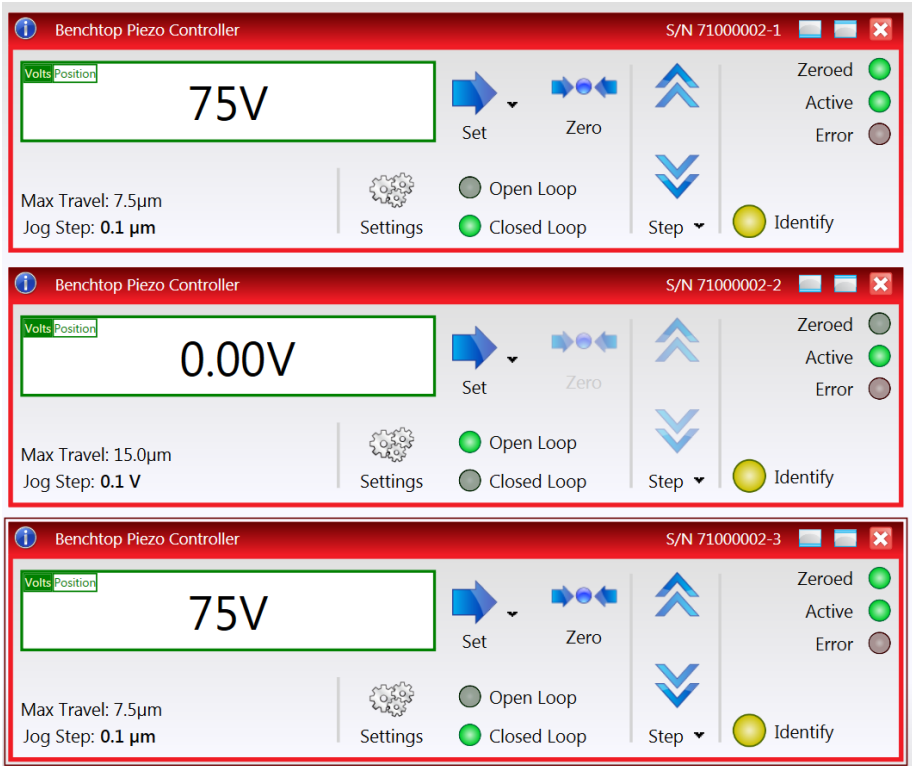

Fig. 4.1 Typical User Screen
- 1) Power up the hardware, and wait until the BPC303 has finished booting up, then run the software - Start/All Programs/Thorlabs/Kinesis/Kinesis. The software registers automatically the units connected on the USB bus and displays the associated GUI panels as shown in Fig. 4.1.